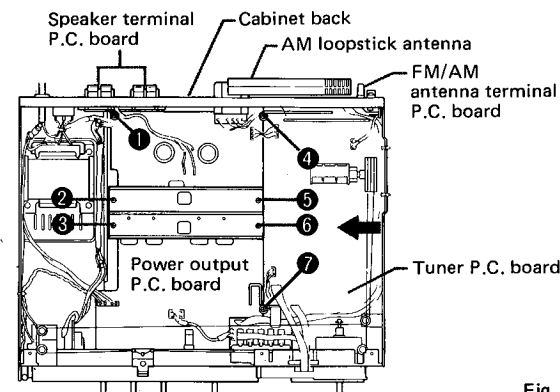

Fig. 5
7. Remove the screws 1 to 7 in Fig. 5.
9. Remove the power output P.C. board backward, and remove the tuner P.C. board in the direction of an arrow shown in Fig. 5.